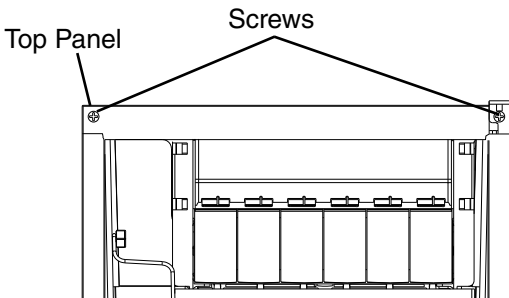

Fig. 4
- a) Contact your local distributor to purchase Kit HS-0229. The kit contains "hinge (A)-left."
- b) Remove the 2 screws securing the top panel, then lift it off. See Fig. 4.